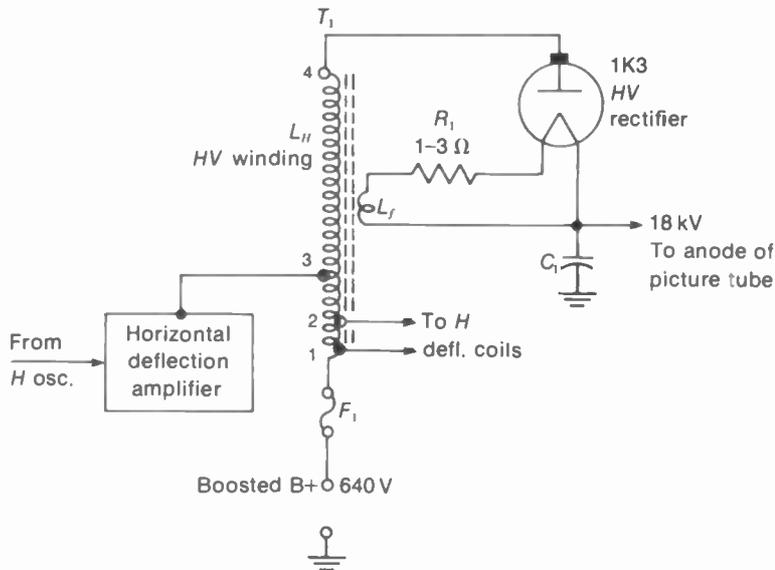

FIGURE 12-32 BASIC CIRCUIT OF FLYBACK HIGH-VOLTAGE SUPPLY.
Practically all television receivers use this circuit because the required high-voltage ac input for the high-voltage rectifier is produced by the fast drop of current in the horizontal output transformer during horizontal retrace. Details of the horizontal output circuit are explained in Chap. 22, but the basic requirements for flyback high voltage are illustrated in Fig. 12-32.  $T_1$  is an autotransformer for the horizontal output. This is called the *flyback transformer*.
**High-voltage rectifiers.** Tubes commonly used for anode voltage of 10 to 20 kV for monochrome picture tubes are the 1B3, 1G3, and 1K3. The top cap is the plate on these tubes. All have essentially the same ratings of 30,000-V peak inverse voltage, heater voltage of 1.25 V at 0.2 A, and dc output of 0.5 mA or less for the load current. Because of the small heater power, the filament voltage can be taken from the horizontal output transformer by the winding  $L_r$  in Fig. 12-32. This is only one turn of heavy wire wrapped on the core of the transformer. A separate filament transformer would require enough insulation to withstand the high dc voltage at the rectifier filament without arcing to chassis ground. Note that  $R_1$  drops the heater voltage to 1.25 V. This may be a carbon resistor, or resistance wire can be used.